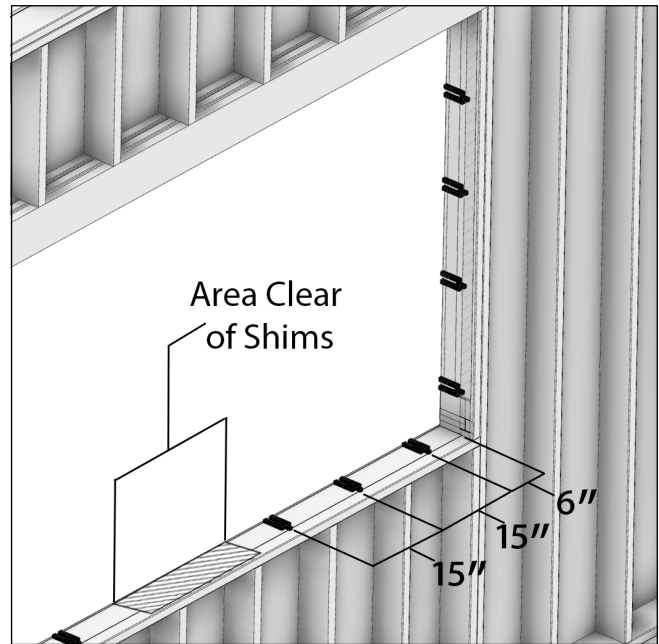

Figure 67 Shim at jambs
8. Installer can attach shim stacks to the left side of the RO to create a plumb face to set the first assembly against. This ensures there is room to fit an air wedge in the gap to later center the interlocked mull assembly. See Figure 67.